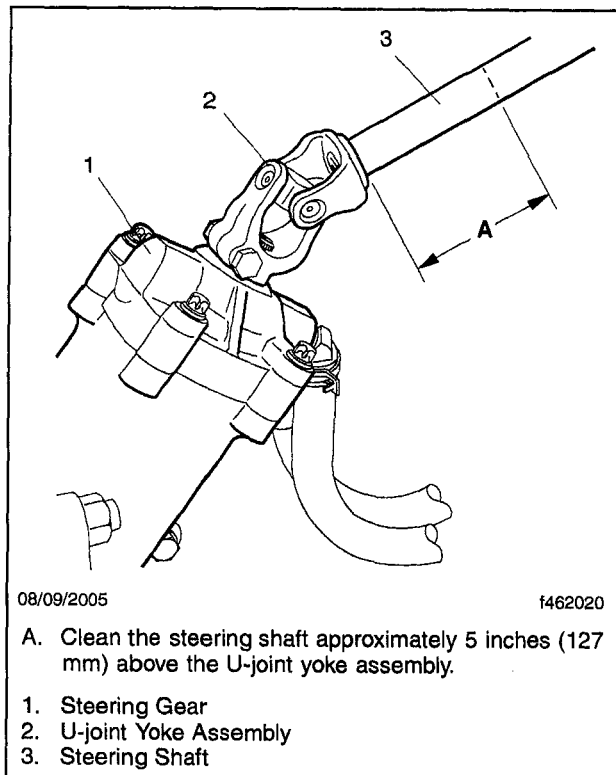

Fig. 1, Cleaning of the Steering Shaft on a Freightliner Vehicle
4. Using a cloth to remove all dirt and grease, clean the steering shaft approximately 5 inches (127 mm) above the U-joint yoke assembly nearest the steering gear. See **Fig. 1**.